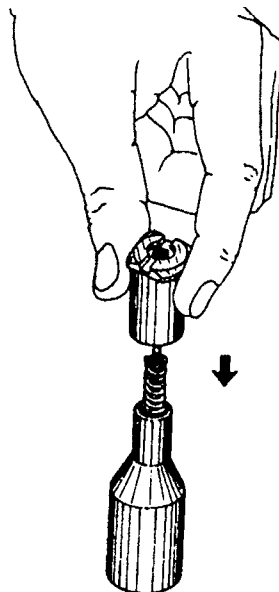

FIG. 4
8. Correctly reassemble the poppet seat holder (92) on the 2nd stage poppet stem (30) and fit the rubber poppet seat (47).
9. Place the complete 2nd stage poppet assembly and its spring (31) on the special tool (B-6).
10. Exerting a slight pressure, correctly insert the 2nd stage poppet assembly and its spring into the fitting of the demand lever connector (91). (FIG. 4).
ROTATE THE DEMAND LEVER CONNECTOR TO THE RIGHT AND LEFT TO OBTAIN CORRECT POSITIONING OF THE 2ND STAGE POPPET. (FIG. 4).